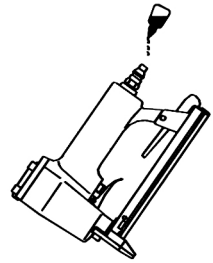

Figure 2
1. Determine if the tool needs oil and, if necessary, place two drops of oil in the AIR PLUG(47) as shown in Figure 2. If you are using an automatic in-line oiler, check and add oil if necessary.